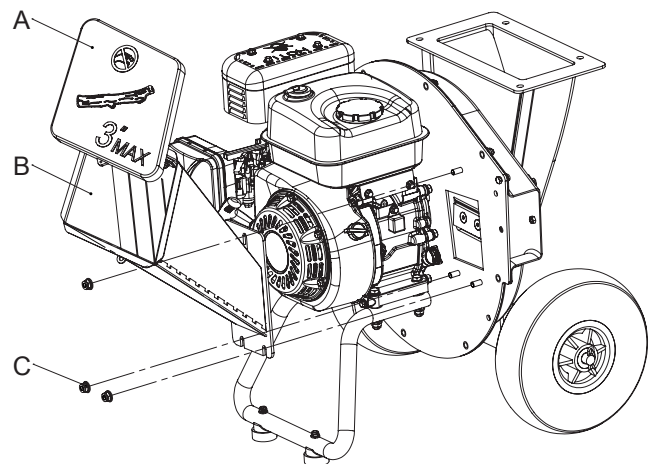

Figure 8
## Inspect Chipping Knives (See Figure 8)
2. Remove the nuts securing the side chute to the front of the chipper. Remove the side chute to access the knives. SEE FIGURE 8